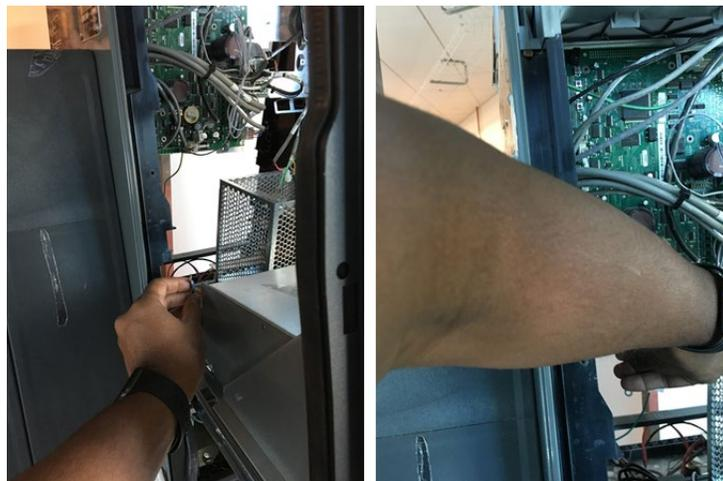

Figure 247
- 16) Install the M4X12 screw (006-8627144) at the same location that the ground ring terminal and M4 screw were just removed from. See Figure 247 below.